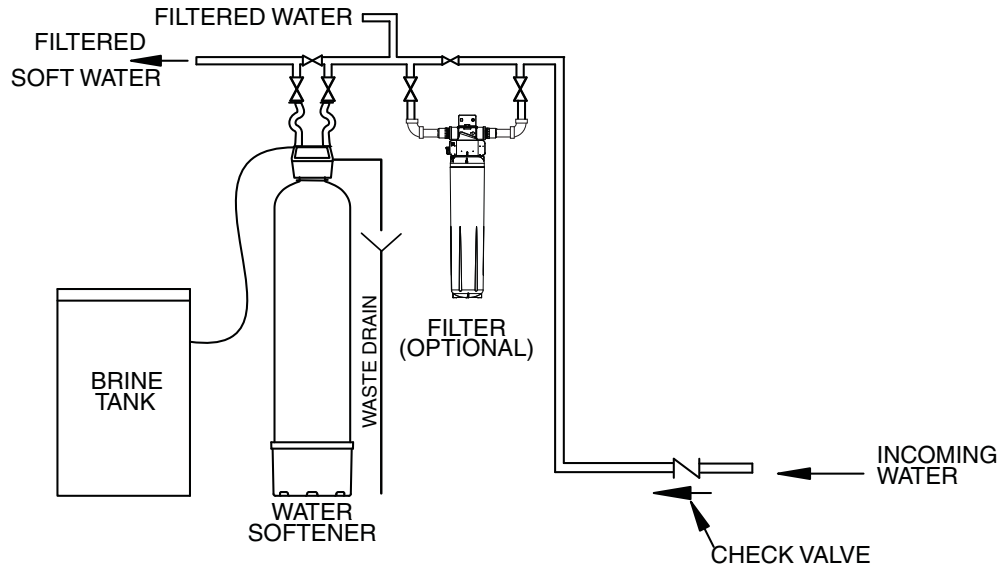

Figure 1
- 3) Locate in correct relationship to other water conditioning equipment (Figure 1, page 2-1).